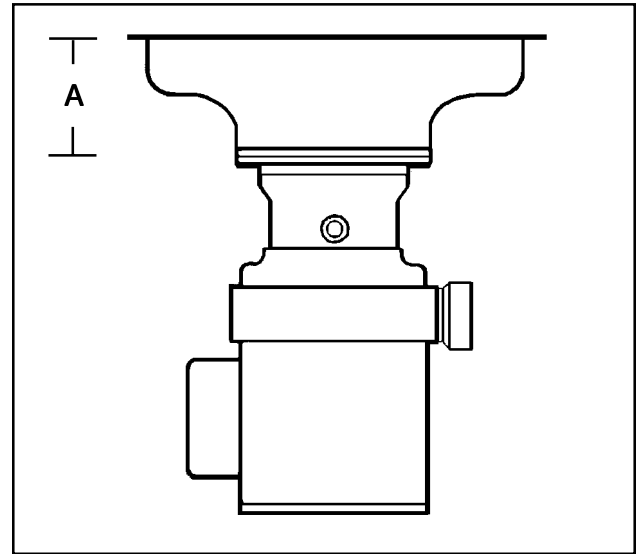

Figure 2: Distance from Table Top to Mounting Flange
- For safe operation, install the disposer in compliance with the minimum distance illustrated in Figure 2.